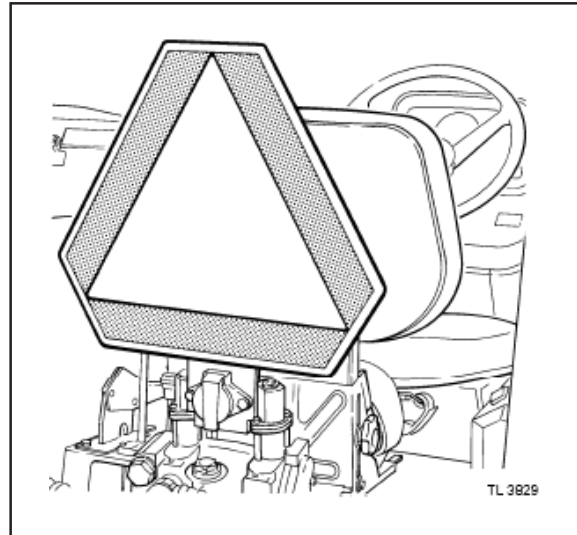

Fig. 22
\*Make sure tractor and equipment are equipped with Slow Moving Vehicle (SMV) (Fig. 22) signs and beacon warning lamp.
- \*Make sure that the load does not obscure warning, any other lights, or the SMV (Fig. 22).